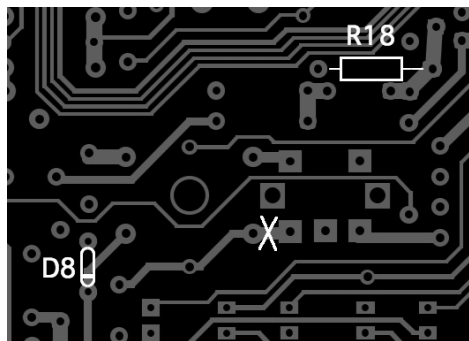

Figure 1
- ❑ Find L30's pads on the bottom side of the RF board. Cut the trace identified in **Figure 1** that connects L30 to pin 2 of T5. Use the tip of an Xacto knife or other sharp tool. Inspect the trace using a magnifying glass to ensure that it is cut.